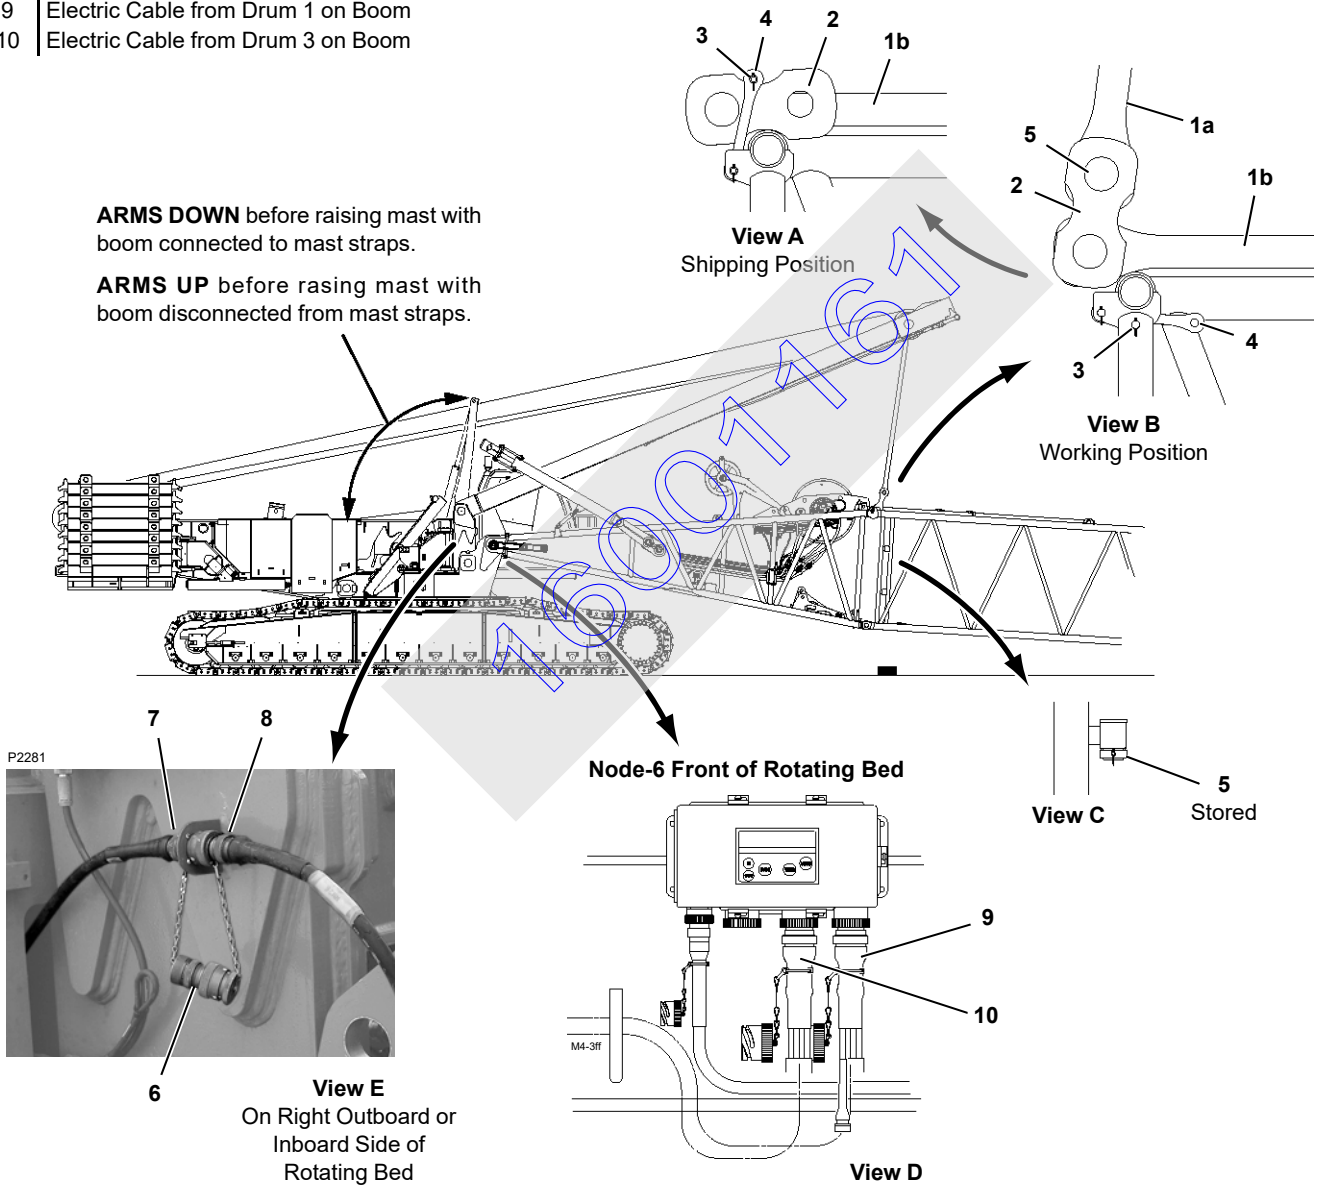

FIGURE 4-25
See Figure 4-25 for the remaining steps.
- a. Disconnect electric cable (8, Figure 4-25, View E) (from boom) from electric cable (7) on crane.
- c. Connect sealing cap to electric cable (8) and store electric cable (8) on boom butt.
- d. Disconnect electric cables (9, Figure 4-25, View D) and (10 optional) from node on front of rotating bed.
2. Disconnect mast straps from boom (see Figure 4-25):
- b. Unpin links (2, View B) from mast straps (1a) and store links (2) and straps (1b) as shown in View A.
- c. Store pins (5) in pockets on insert (View C).